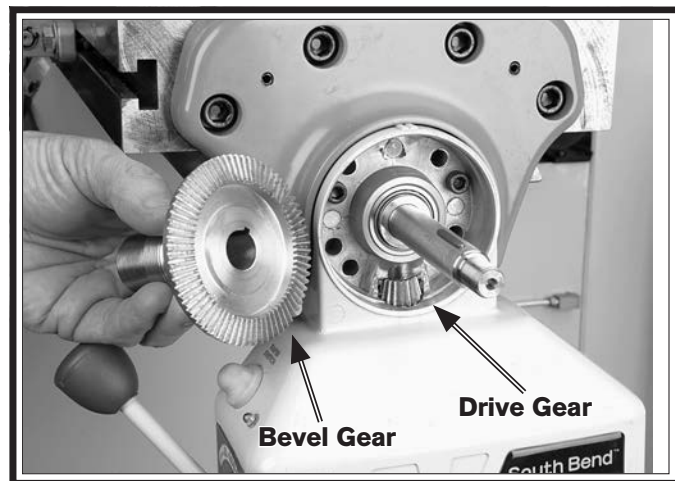

Figure 79. Example of power feed brass gear and drive gear.
5. Brush a light coat of lubricant on teeth of bevel gear and smaller drive gear (see **Figure 79**).